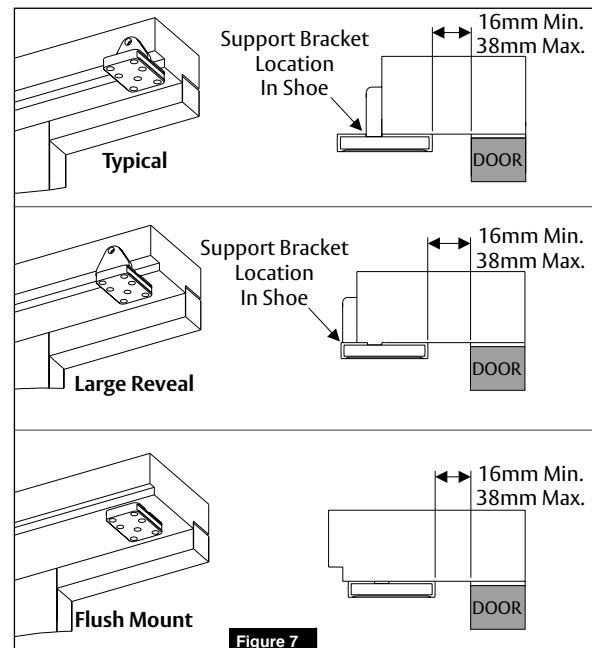

Figure 7
2. Determine frame location of triangular support bracket. (Figure 7)